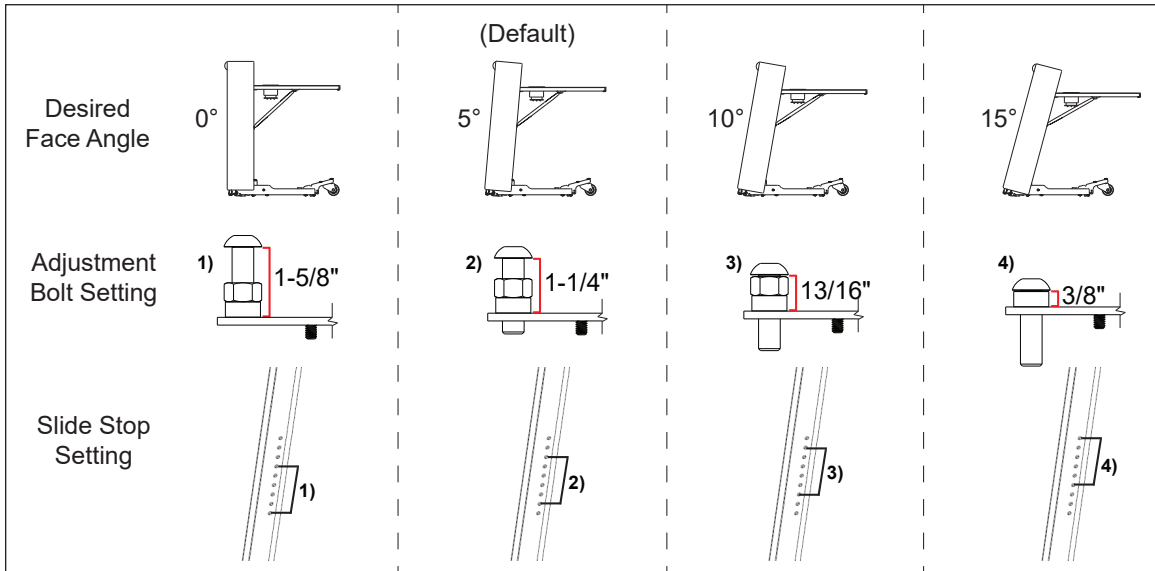

Figure 41: Face Angle Adjustment
Face angle is adjustable from a minimum of 0° to angled back 15°. Use a measuring device to set the adjustment bolt at the correct height to correspond with the typical face angles as shown below and in **Figure 41**:
2. Move the slide stop up as the face angle increases or down as the face angle decreases as shown below and in **Figure 41**: